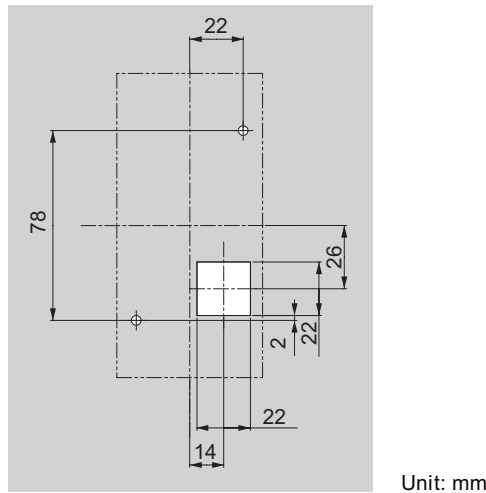

Figure 2.7 Panel Cut-Out Dimensions (External/Face-Mount Installation)
1. Cut an opening in the enclosure panel for the digital operator as shown in Figure 2.7.